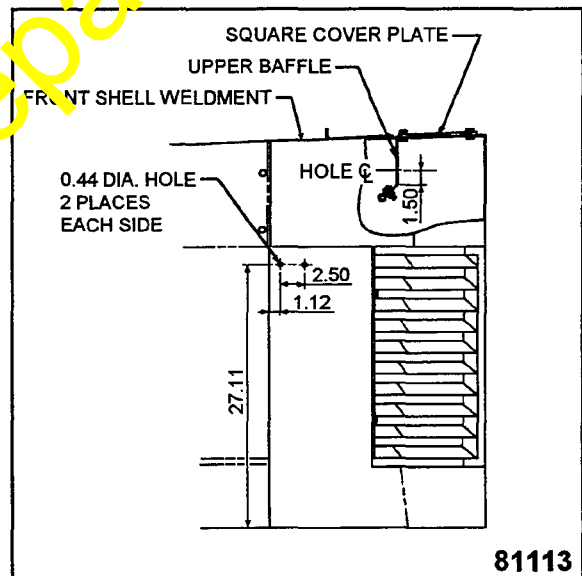

Figure 2
4. Drill two 0.44 diameter holes in each side of front shell weldment as shown in Figure 2.